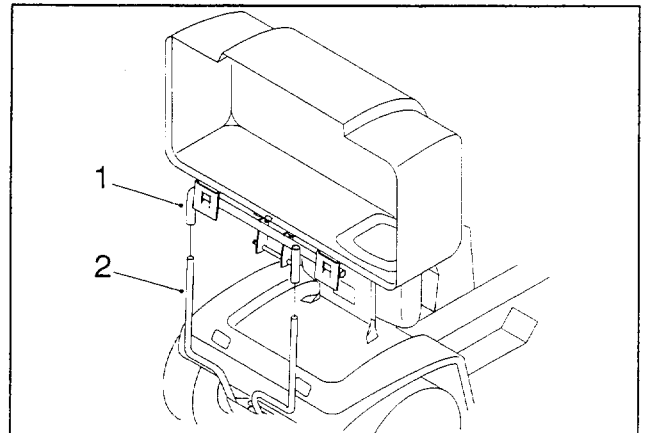

Figure 13
3. Tilt the tractor seat forward. Slide the bagger top onto the quick-attach bracket (Figure 13).